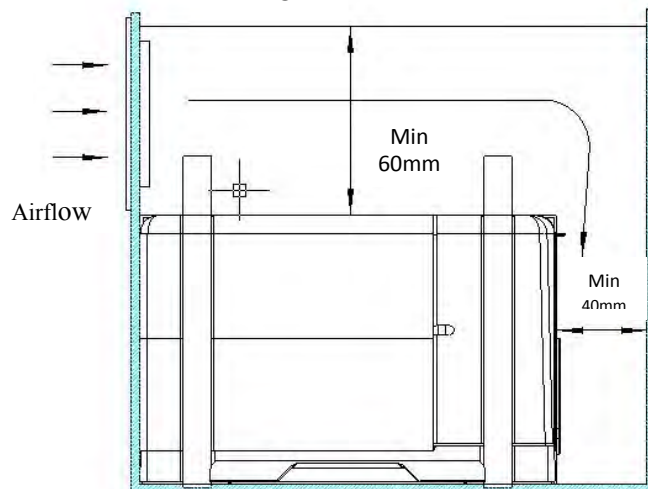

Figure 2-Minimum distances between the unit and the surrounding walls if the filter is on the opposite side compared to the return air grille
- If this is not possible then there must be at least a 40mm gap between the wall/cupboard/seat and the filter of the unit and a 60mm gap between the top of the unit and the wall/cupboard/seat. (Figure 2)